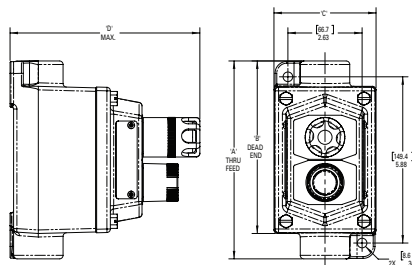

Figure 1
1. Select a mounting location that will provide suitable strength and rigidity to support all control devices and contained wiring. Figure 1 shows mounting dimensions for all EDS and EFS Back Boxes. Drill and tap mounting holes as required.